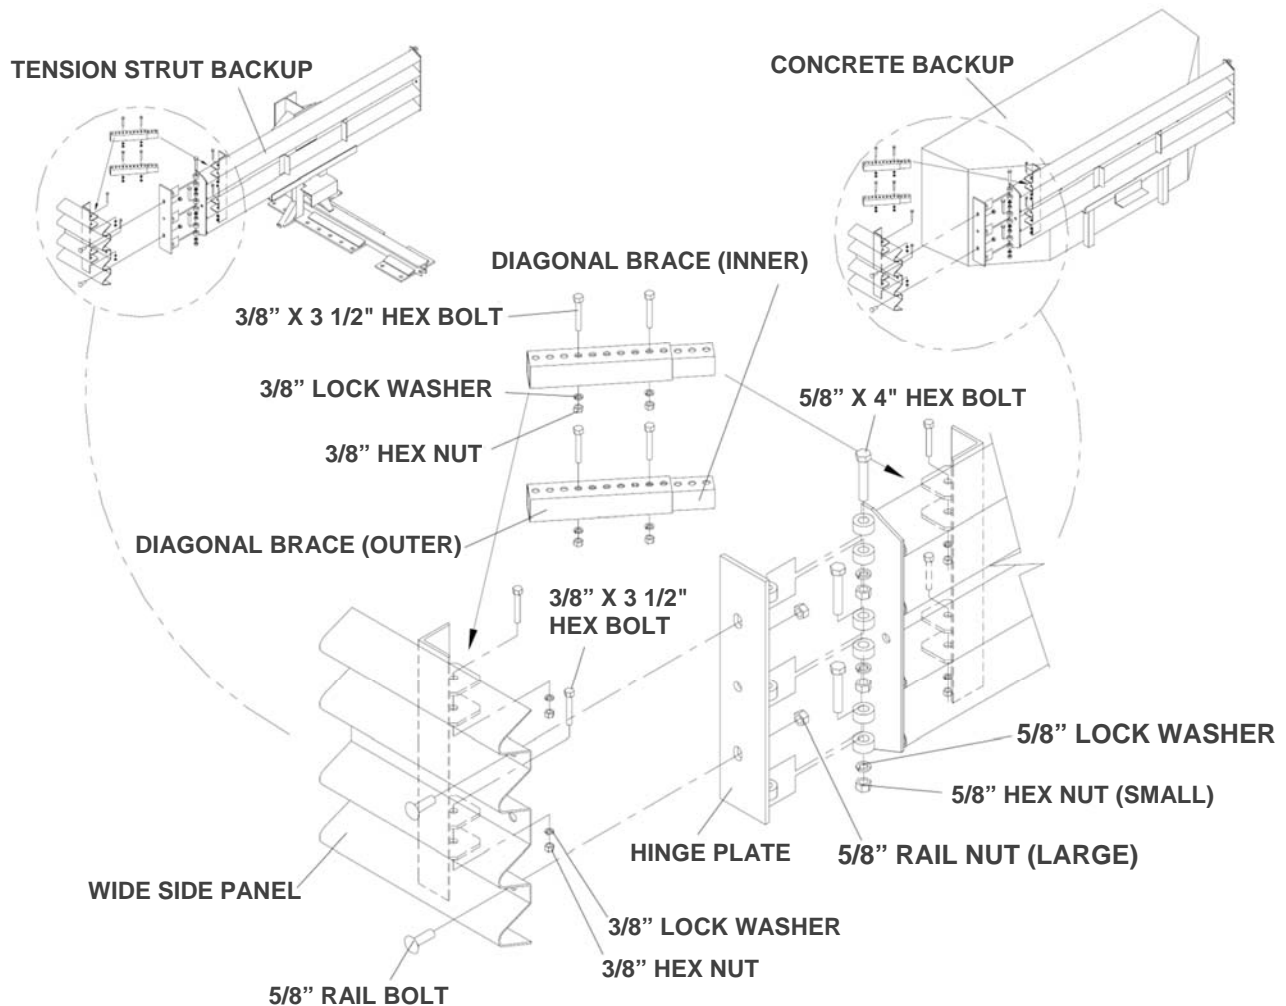

Figure 57
4) Attach Side Panels and/or Transition Panels to Backup Assembly (Figure 57)
- c. Attach diagonal brace to Fender Panel and Backup using 3/8" hex bolt, 3/8" lock washer and 3/8" hex nut (two (2) places per brace: four (4) places per side).
- d. Secure each diagonal brace with a 3/8" hex bolt; 3/8" lock washer, and 3/8" hex nut (two (2) places per brace) as shown in Figure 57.